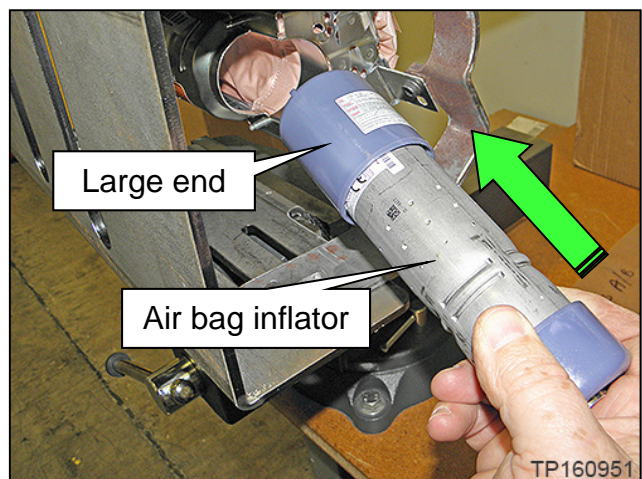

Figure 30
31. Remove the new air bag inflator from the box, and then install it into the air bag module, as show in Figure 30.